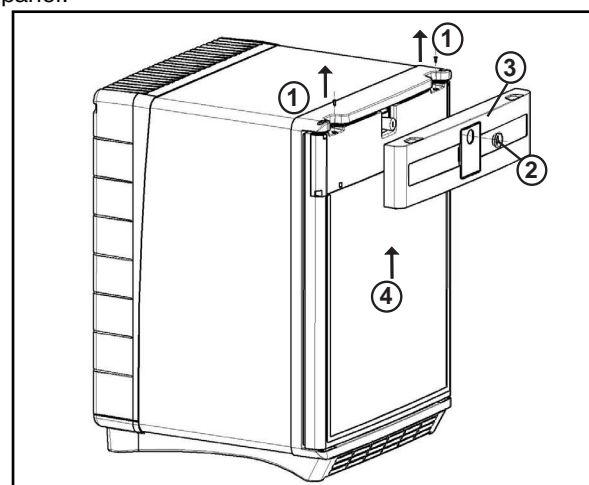

Figure 11.
10. Replacing the decorative door panel (Fig. 11)